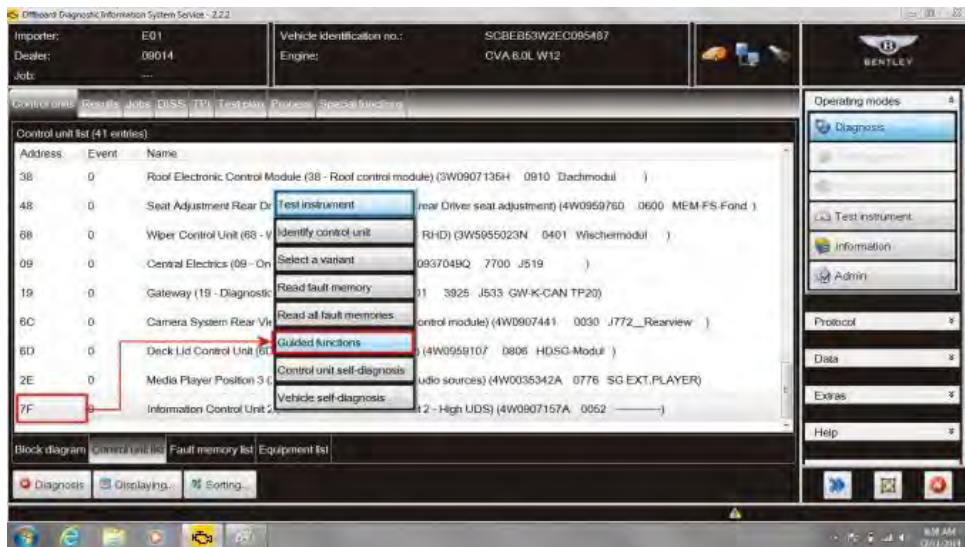

Figure 11
19. A second **Replace control module** routine for 7F must be performed, Within Control units—Select (single touch) **7F Information Control Unit 2**—Reveal drop down menu (extended touch and release), Select **Guided functions** (see Figure 11)